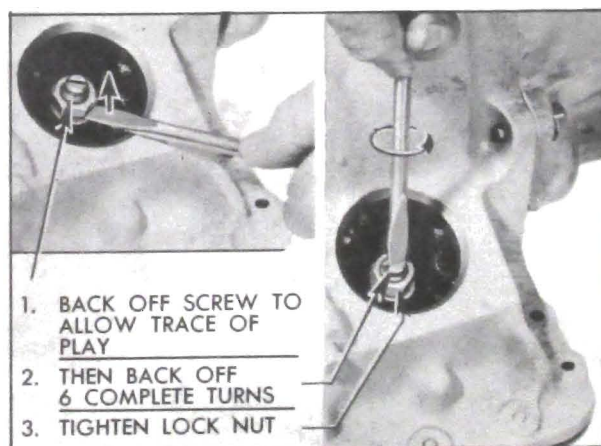

Figure 5-106—Band Adjustment
1. Loosen lock nut and turn adjusting screw clockwise until considerable resistance is felt, indicating that band is in full contact with the drum (low) or ring gear (reverse). See figure 5-106.
2. Back off screw until just a trace of play can be felt by prying up on lock nut with screwdriver. From that point, back off screw six (6) complete turns and snug up the lock nut. See figure 5-106.